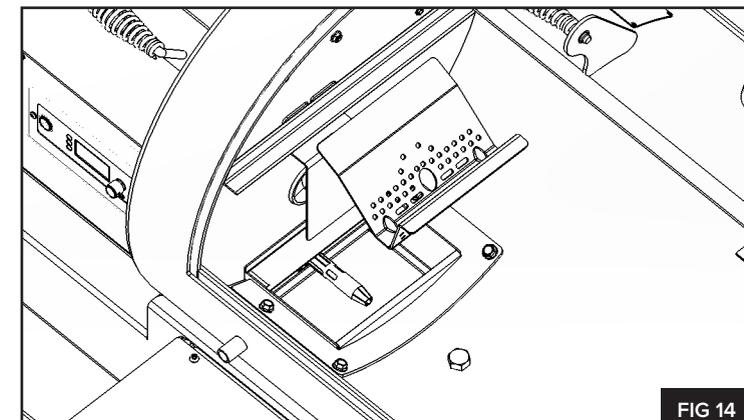

FIG 14
3. Remove the burn grate from the firebox **(FIG 14)**. Inspect and clean thoroughly. Make certain that the combustion holes in the burn grate and the igniter tube in the firebox are free of debris or ash build up. Visually inspect the air way between the combustion fan and the firebox to be certain that it is free and clear of ash and debris, as this will prevent grease fires. **NOTE:** A shop vacuum works well for quick, thorough ash and debris removal.